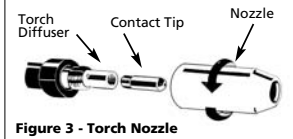

Figure 3 - Torch Nozzle
- b. Wire matches contact tip in end of gun. (See Fig. 3).
7. Remove nozzle by turning counterclockwise, then unscrew contact tip from end of welding torch (See Figure 3). Plug welder into a proper power supply receptacle.
9. Carefully slip contact tip over wire and screw tip into torch end. Install nozzle by turning clockwise (See Figure 3). Cut wire off approximately 1/4 inch from nozzle end.